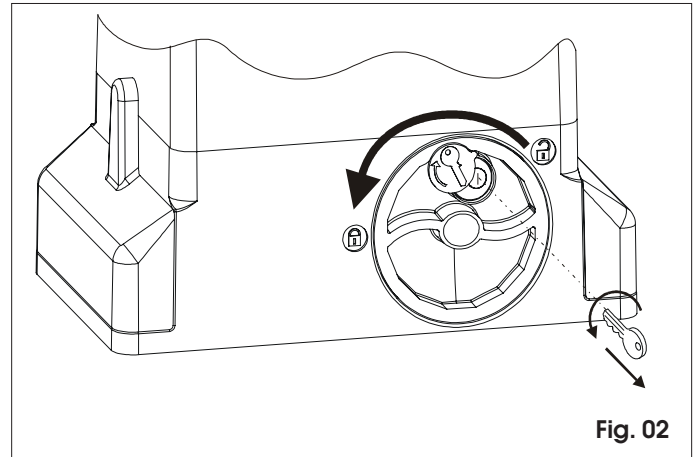

Fig. 02
- 1) Turn the release system anti-clockwise, until its stop is reached, Fig. 02 ref. 1.
- 2) Turn the key anti-clockwise and remove it from the lock, Fig. 02 ref. 2 and 3.